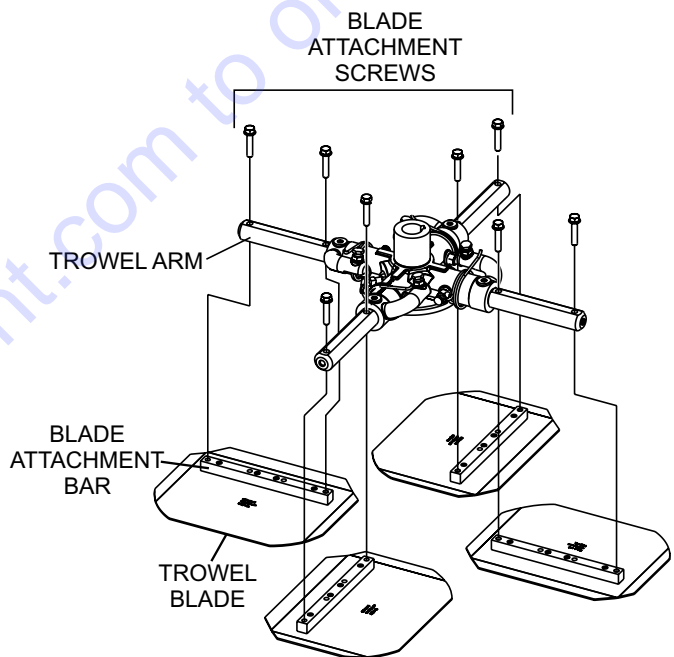

Figure 23. Blade Removal
2. Remove the bolts and lock washers from all the trowel arms, and then remove the blades as shown in Figure 23.